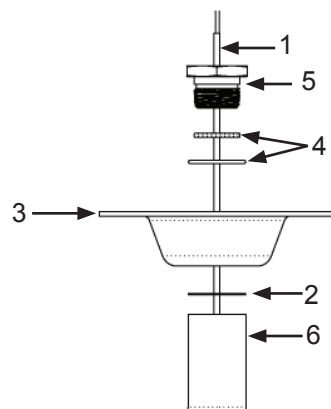

Figure 11 Base Plate Assembly
Step 6. Feed the sensor cable (1) through the gasket (2), the base plate (3), the O-rings (4) and the hex bushing (5). Secure the assembly by screwing the hex bushing into the ell (6). See Figure 11.